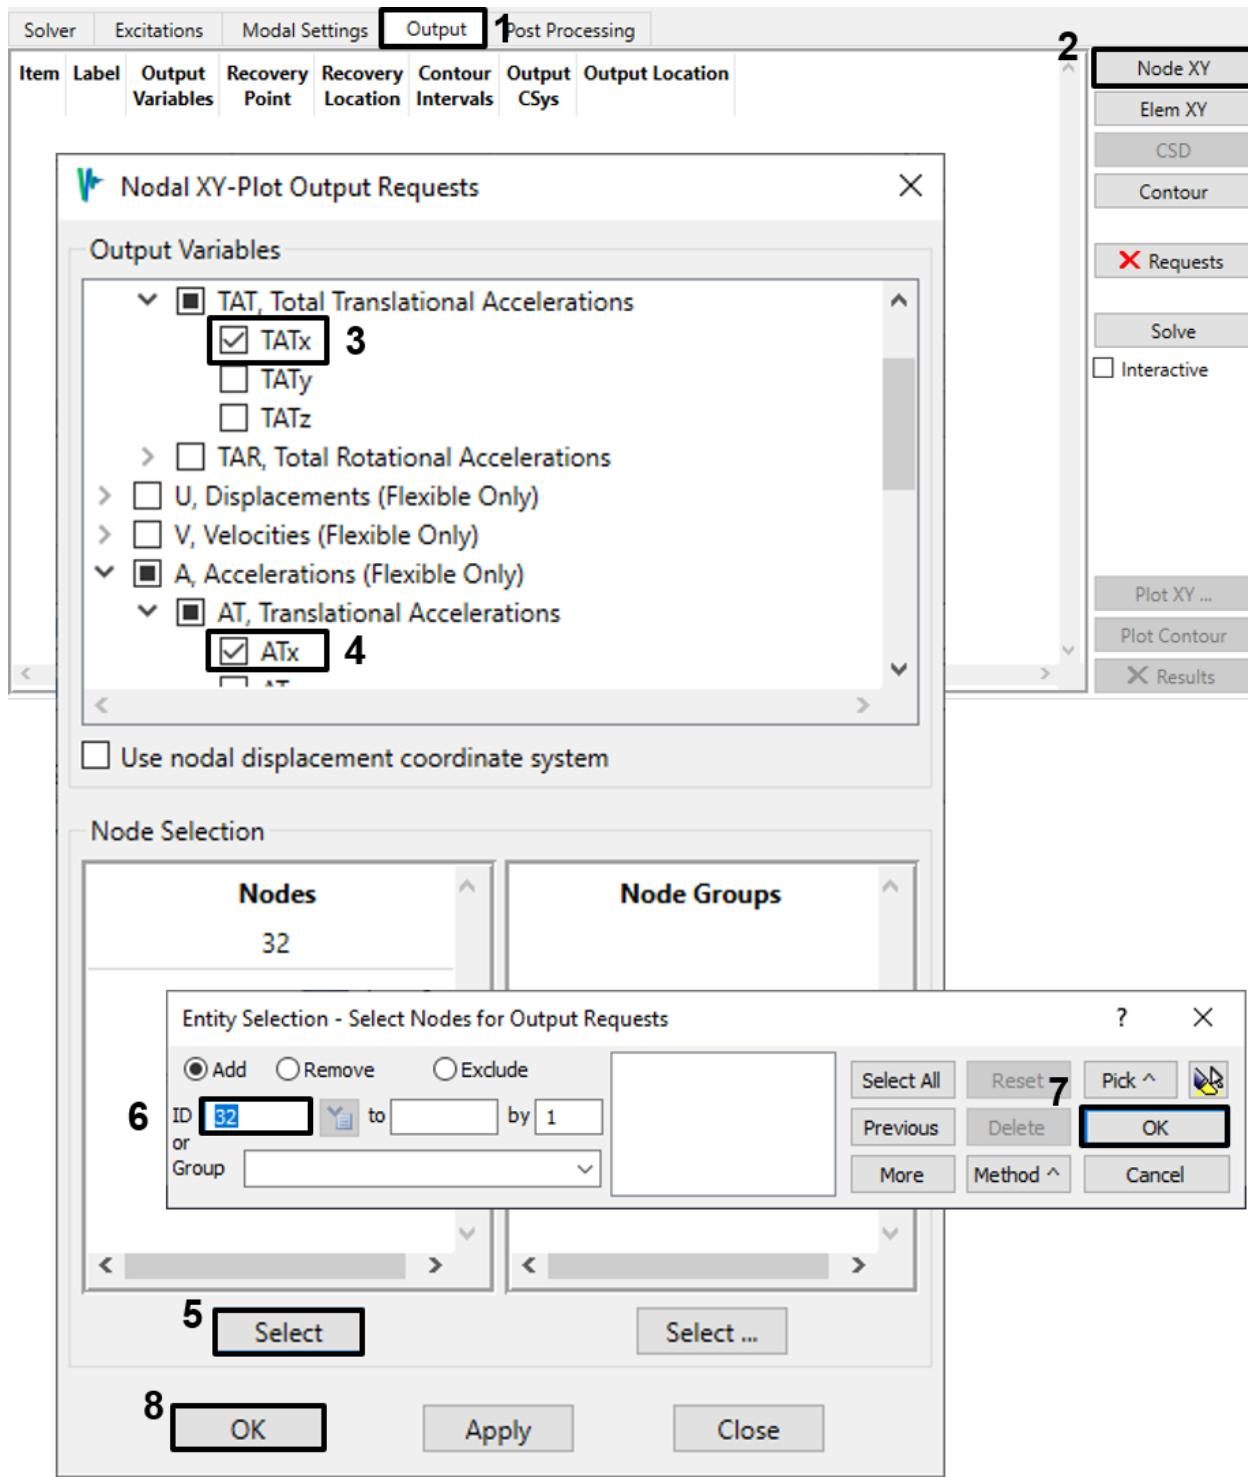
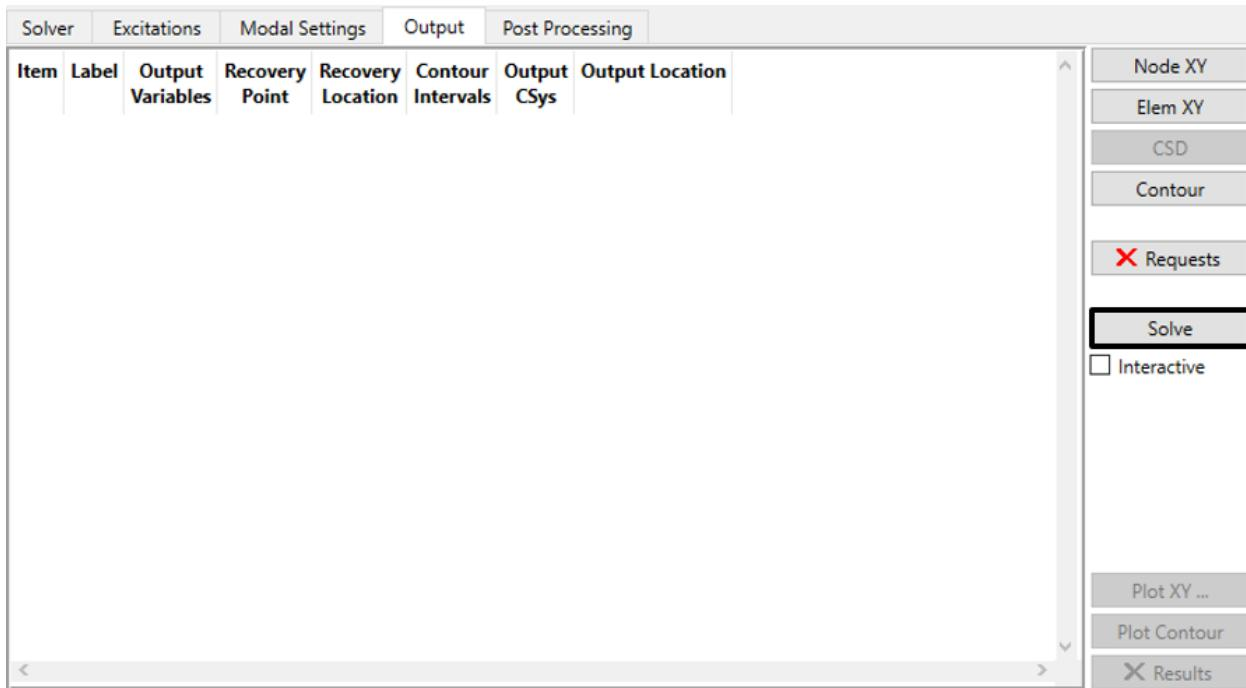

Figure 4-15. Request XY output for total and flexible X-accelerations at node 32.
Figure 4-16. Solve for the requested output.
5. Create a Node XY output request for the free DOF. Select the *Output* tab. Request X-direction output at node 32 for Total Accelerations (*TATx*) and Relative Accelerations (*ATx*), as shown in Figure 4-15. When you click **OK** or **Apply** on the *Nodal XY-Plot* dialog, the request appears in the output request table as shown in Figure 4-16.
a. On the Output tab, click Solve (Figure 4-16) to compute the frequency response.